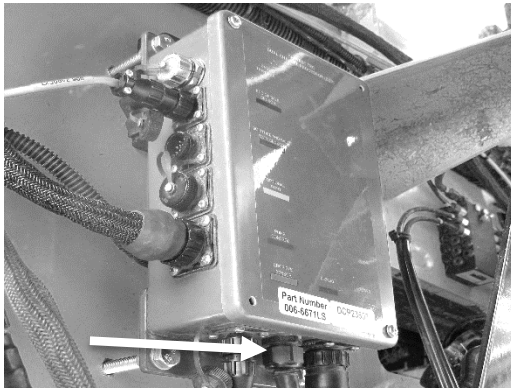

Figure 3
5. Mount the DCP with the display cable pointed down to the baler (Figure 3). \*The baler ECU will be partially covered by the DCP.